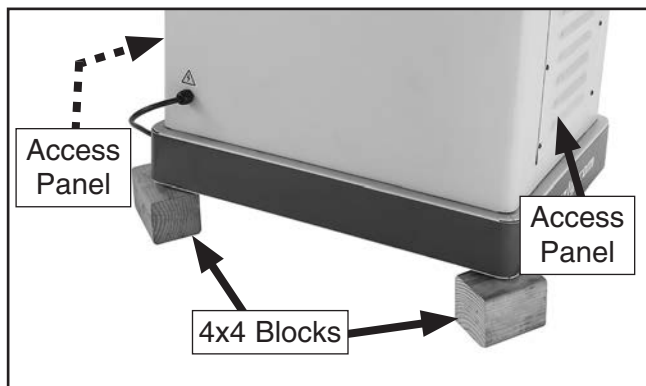

Figure 13. 4x4 block placement.
4. With the help of an assistant, tip machine enough to allow placement of two 4x4 blocks under backside of cabinet (see **Figure 13**), then remove access panels.